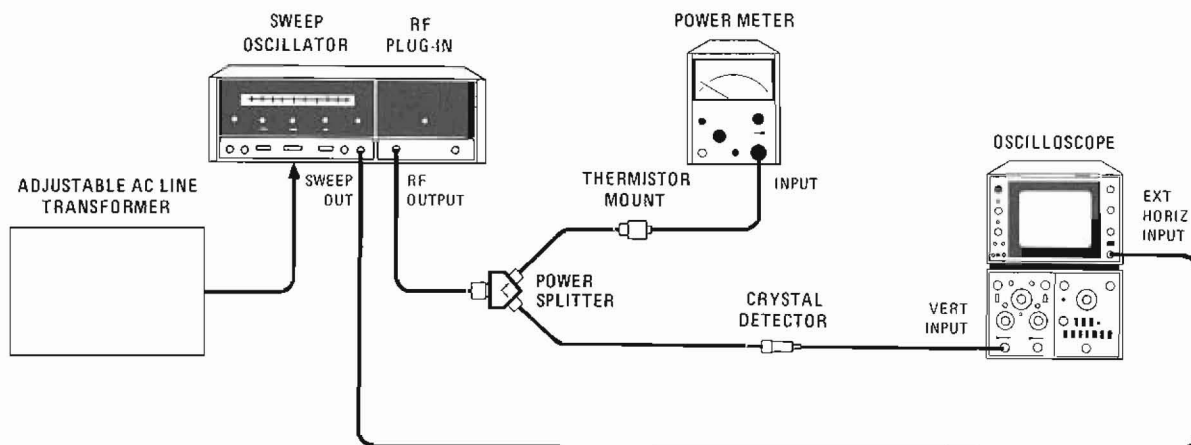

Figure 4-6. Leveled Power Variation Test Setup
- e. Connect equipment as shown in Figure 4-6.